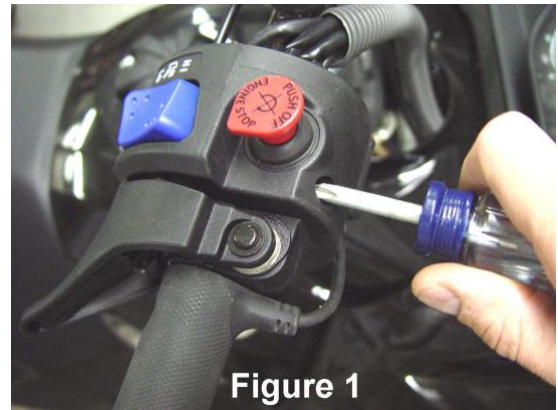

Figure 1
Step 3: Remove the two Phillips screws which hold the throttle block assembly together. See **Figure 1**.